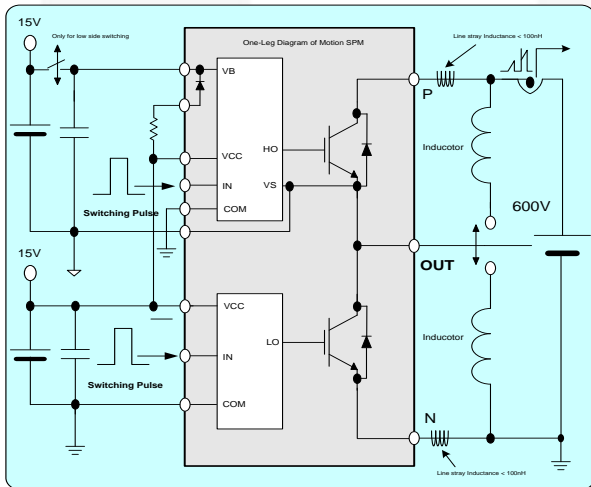
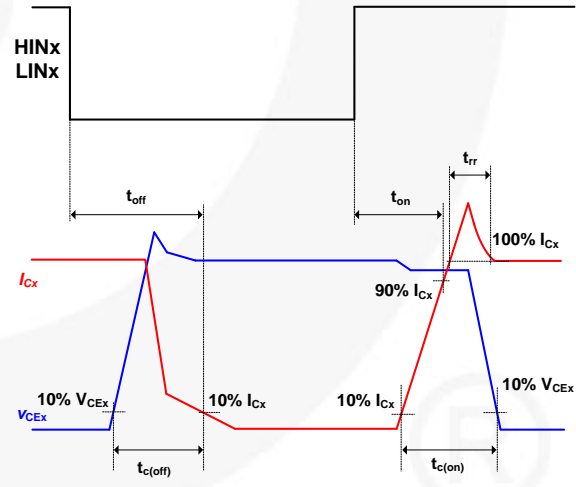

Figure 8. Switching Evaluation Circuit
Figure 9. Switching Time Definition
- t_{ON} and t_{OFF} include the propagation delay time of the internal drive IC. $t_{C(ON)}$ and $t_{C(OFF)}$ are the switching time of IGBT itself under the given gate driving condition internally. For the detail information, please see Figure 8 and Figure 9.